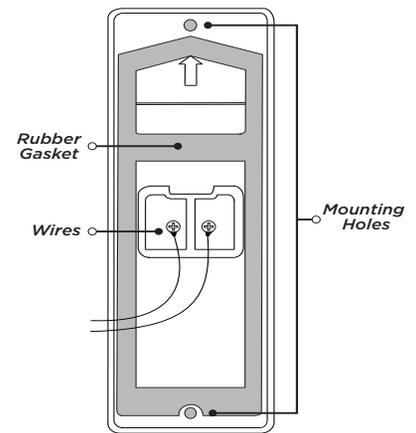

Figure 3: Connecting the Power Cables
3. Place the rubber gasket on the back of the doorbell as shown in Figure 3.